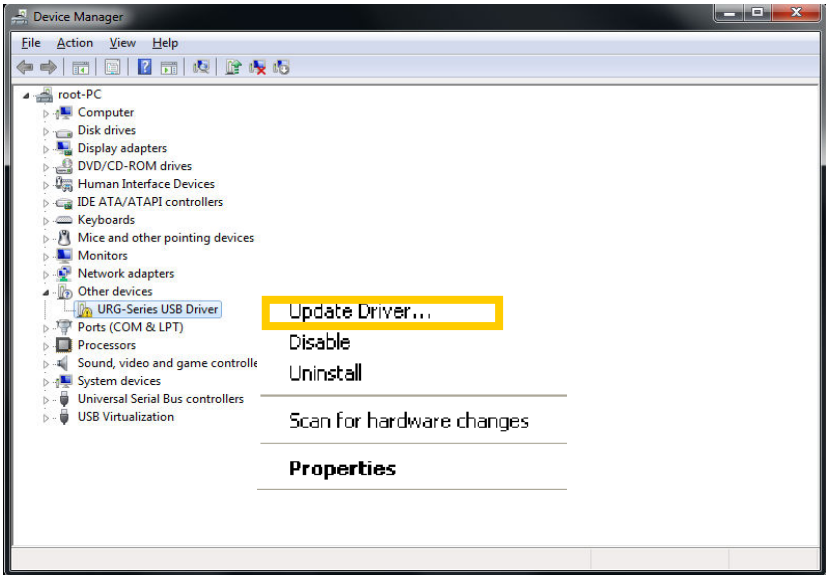

Fig A.2-1 Device Manager
1. First, power supply to the sensor, then connect sensor to the computer with a USB cable, and open "Device Manager". In the case when the driver has not been installed, the icon as illustrated in Fig. A.2-1. will be displayed.